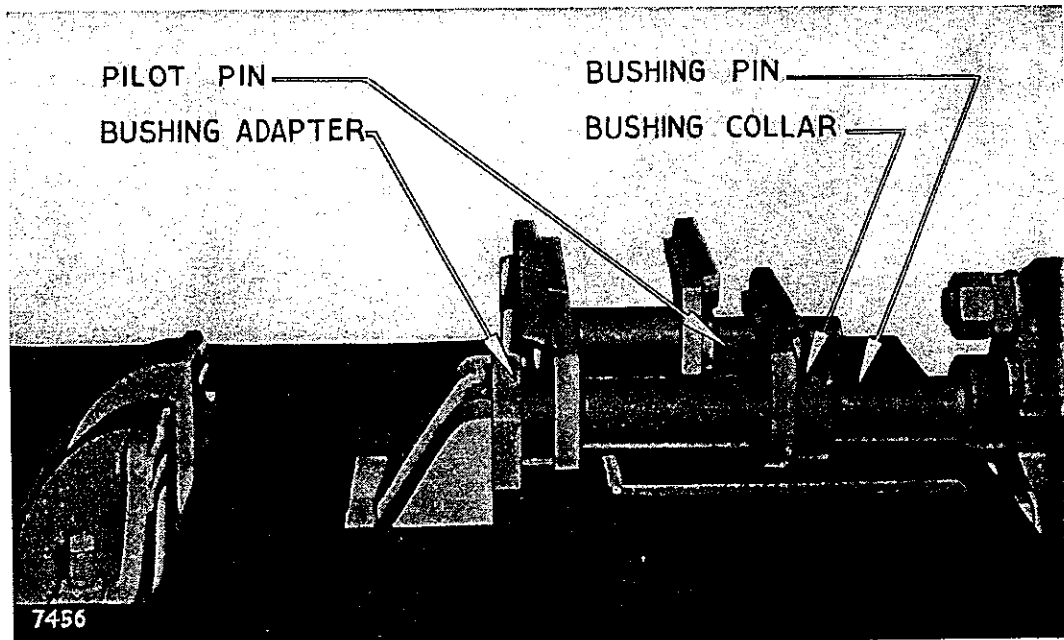

FIG. 4 ASSEMBLING TRACK
3. With the pilot pin in place, press the bushing into position using the bushing adapter, bushing assembly pin and bushing collar (Fig. 4).